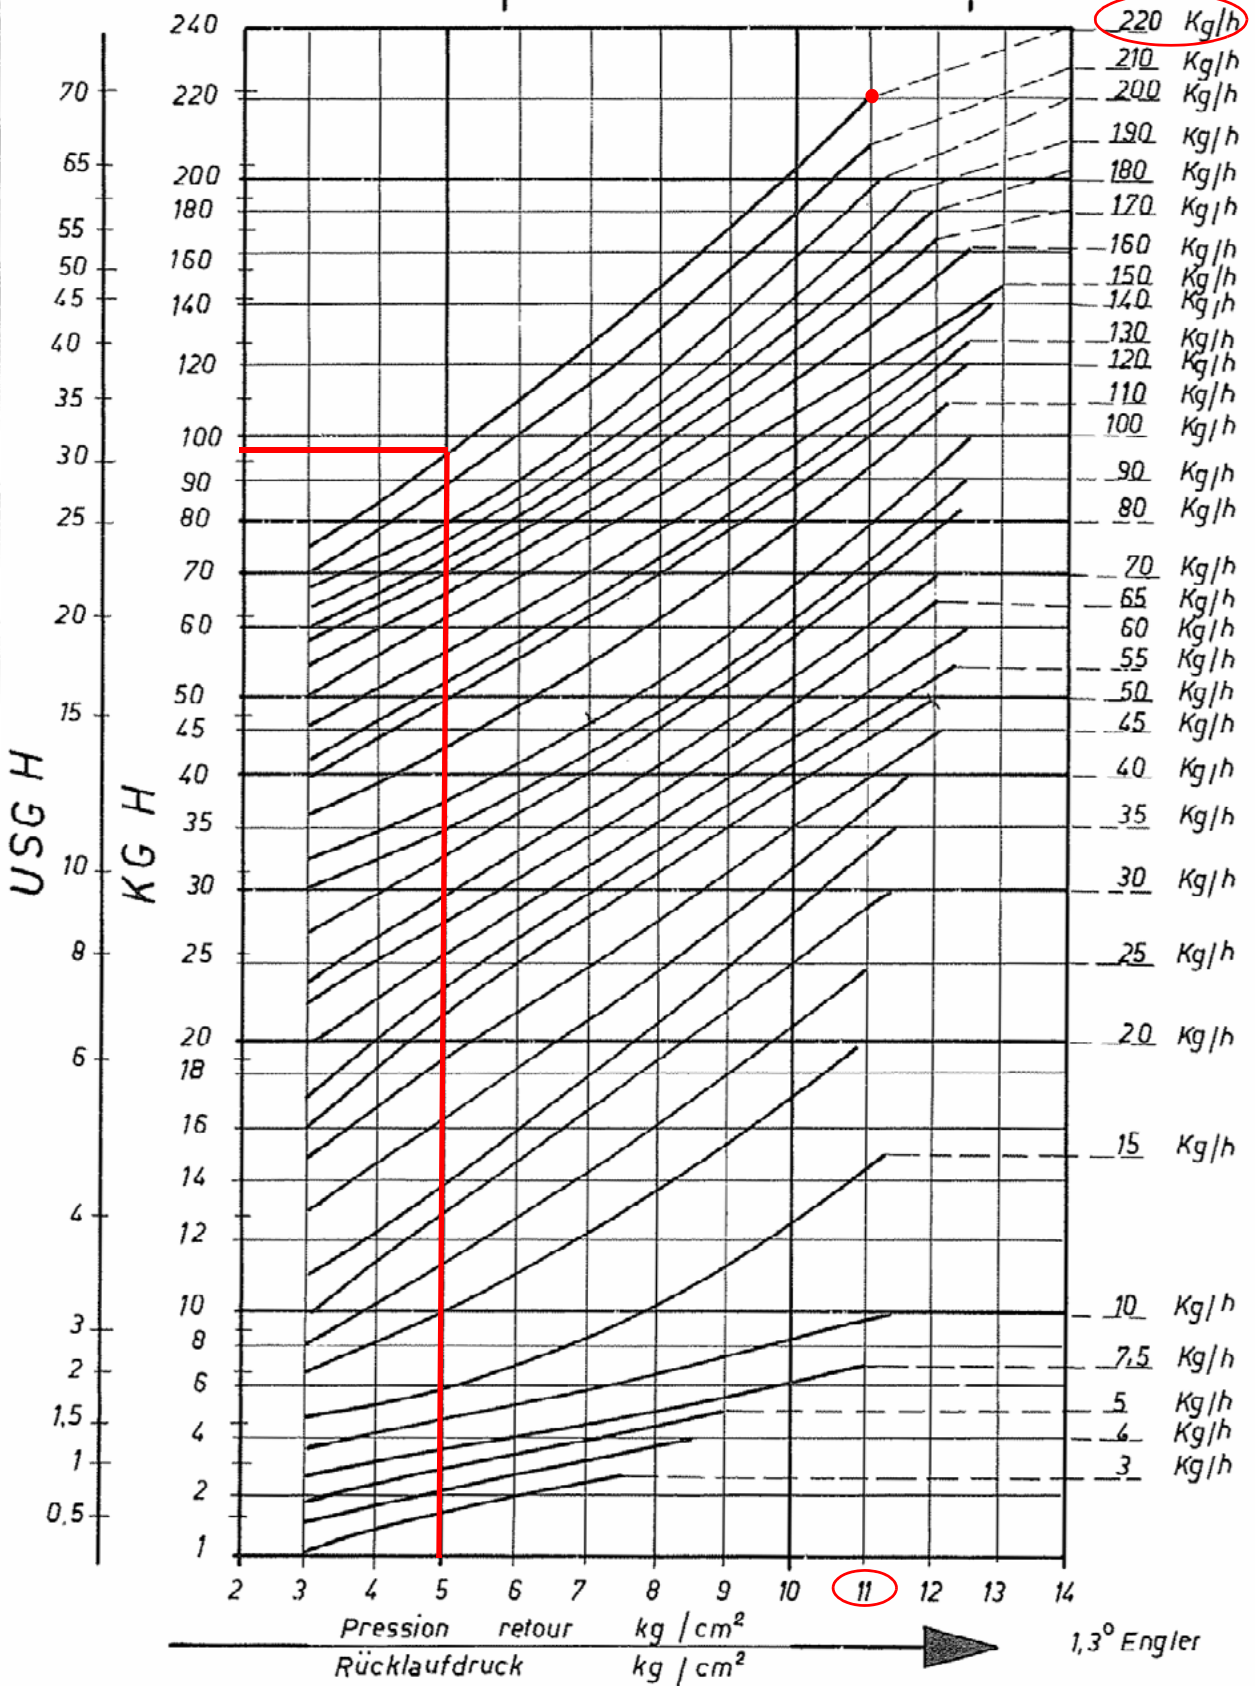

Fig. 21
- 10 the nozzle supply pressure is already factory-set and must not be changed. Only if necessary, adjust the supply pressure as follows (see related paragraph); insert a pressure gauge into the port shown on Fig. 21 and act on the pump adjusting screw **VR** (see Fig. 25) as to get the nozzle pressure at 25bar (Fluidics nozzles - see diagram on page 20).